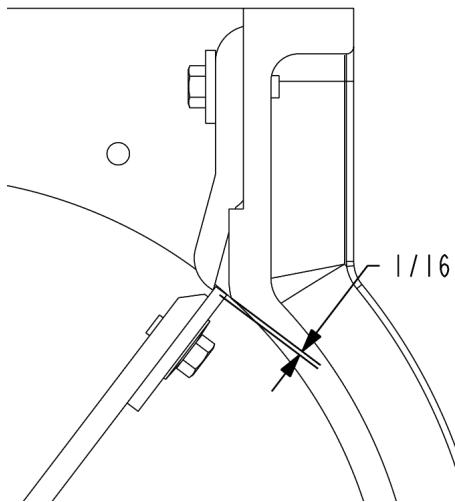
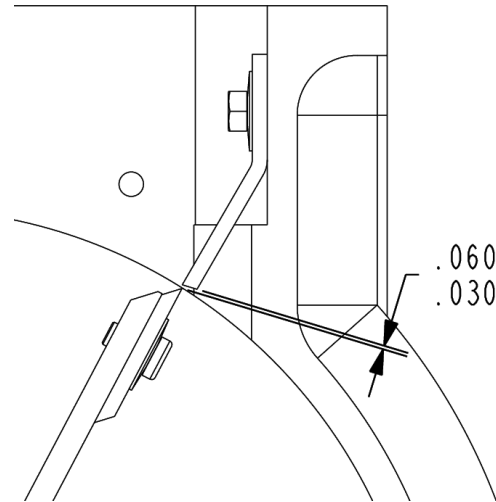

Figure 7-2: Polymer wiper overlap
Figure 7-3: Solid wiper clearance
7. Adjust the position of the wiper blade to achieve the correct position in relation to the tips. Polymer wiper blades should overlap the tips approximately 1/16 in (1.5 mm). Solid wiper blades must have a minimum clearance of 0.030 in (0.76 mm) and a maximum clearance of 0.060 in (1.5 mm), check the clearance using a feeler gauge. Reference **Figure 7-2** and **Figure 7-3**.